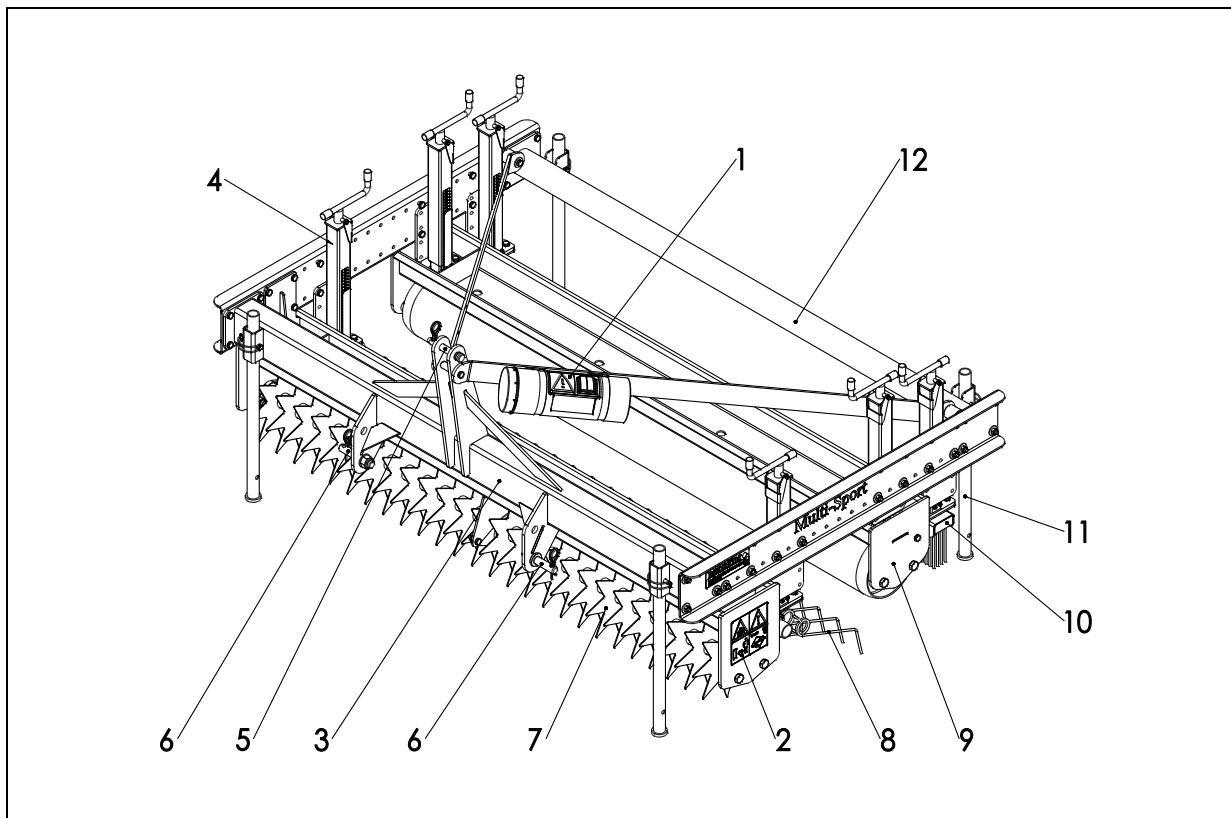

Figure 7
Figure 7 shows several important components:
1. By turning the spindles (4) (Figure 7) the different sections can be placed in upper or lower position on the machine. More configurations are possible.